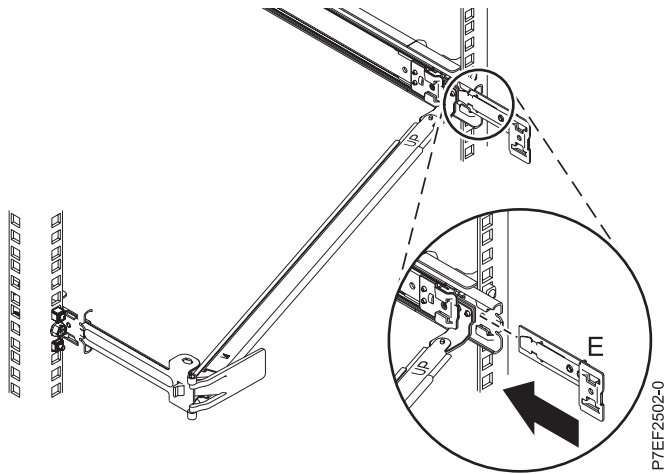

Figure 15. Installing the extension bracket into the slide rail
4. Slide the extension bracket (**E**) into the right slide rail. Push the bracket into the slide rail until the spring-loaded latch snaps into place, as shown in Figure 15 on page 12.